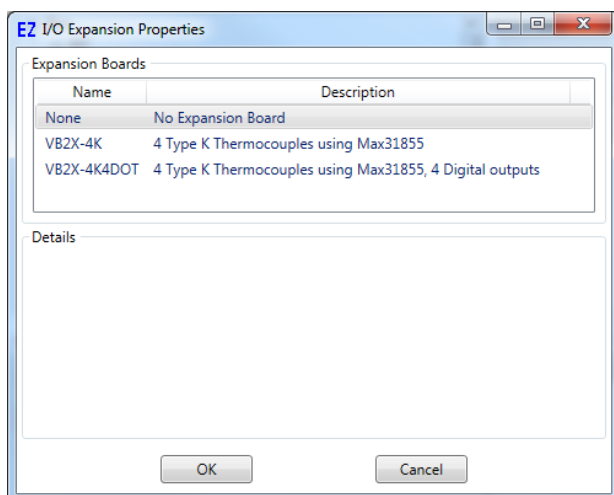

Figure 1-4 - I/O Expansion Properties
- Highlight the **I/O Expansion** in the list and click the **PROPERTIES** button on the right side of the Expansion pane in the VB-2000 Properties Window. The I/O Expansion Properties Window will open. Refer to Figure 1-4.
- Select the VB2X-4K expansion board from the list of Expansion boards. Refer to Figure 1-4. The Details section of the window will update with the devices supported on the expander (for reference only) that will be installed in the project settings of the program.